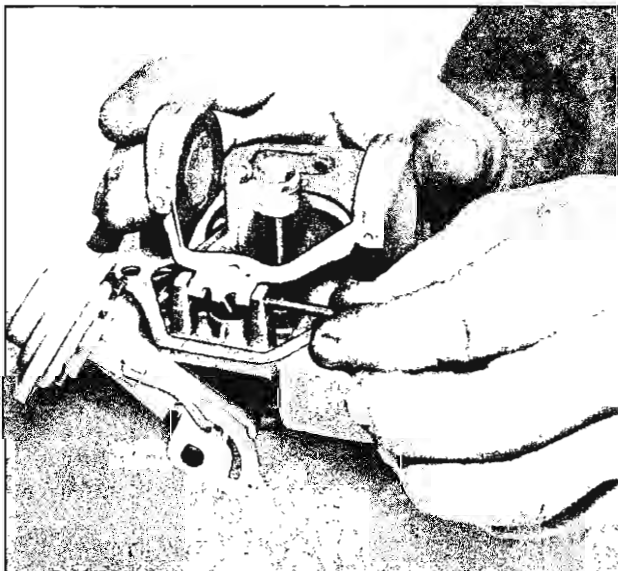

Fig. 11—Removing Float
7. Place cover up-ended on flat surface and remove float hinge pin, floats and float needle (fig. 11).